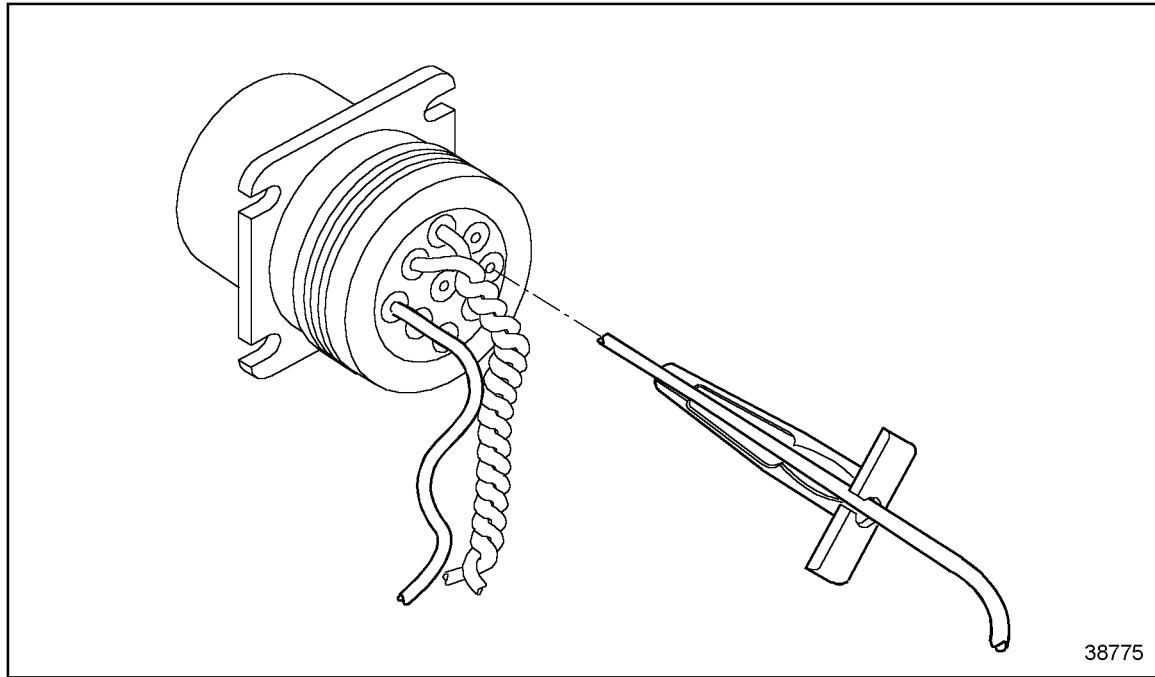

Figure 2-21 Removal Tool Insertion
2. Slide the tool along the cable into the insert cavity until it engages and resistance is felt. Do not twist or insert tool at an angle. See Figure 2-21.